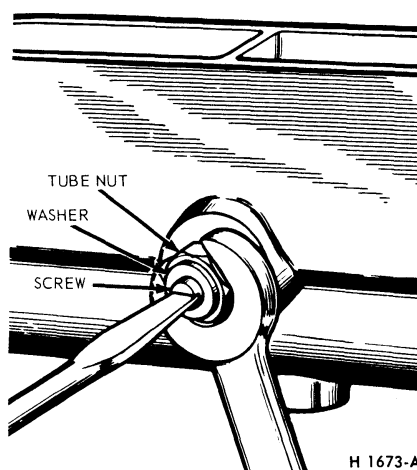

FIG. 27 Removing Residual Check Valve and Tube Seat
9. Install a spare brake line tube nut in the rear brake outlet port (Fig. 27). Place a flat washer on a 1 inch No. 8 x 32 self-tapping screw and thread the screw into the tube seat insert in the port. Hold the screw from turning, and back the tube nut out of the port. This will remove the tube seat insert from the port.